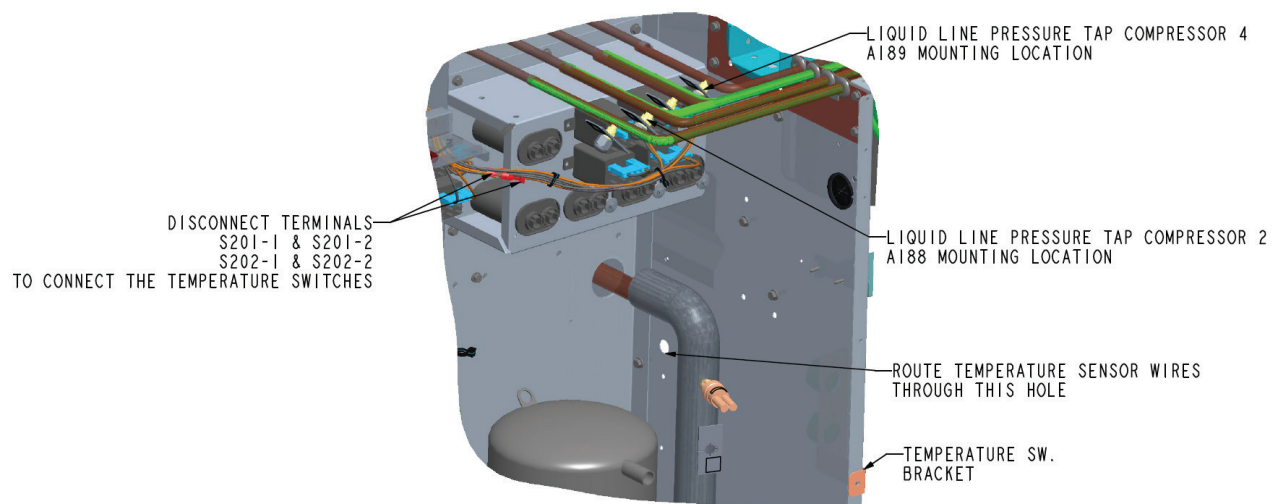

FIGURE 10
- 6 - Install the pressure transducers on compressor 2 (stg. 2) and compressor 4 (stg. 4). liquid line pressure tap as shown in FIGURE 10.
- 1 - Route temperature switch wires through the division panel between the compressor and outdoor coil sections. See FIGURE 10.
- 2 - Disconnect male and female terminals from wires marked "S201" and "S202" near K10 relay. See FIGURE 10.